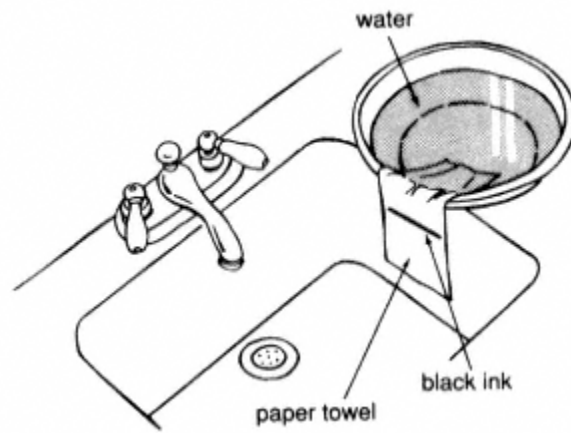

Figure 16.3
1. Is the order of the separating solutes different if the solvent flows down instead of up? Cut a 2-inch (5-cm) strip from a paper towel. Using black water-soluble ink, draw a line across the strip about 4 inches (10 cm) from one end. Set a bowl full of water on a counter next to a sink. Place the end of the paper strip nearest the black line in the bowl of water. Do not let the black line touch the water in the bowl. Allow the strip to hang over the edge of the bowl into the sink (see Figure 16.3). Compare the chromatogram produced in this manner with those previously formed. Display the chromatograms and indicate the procedure by which they were produced.